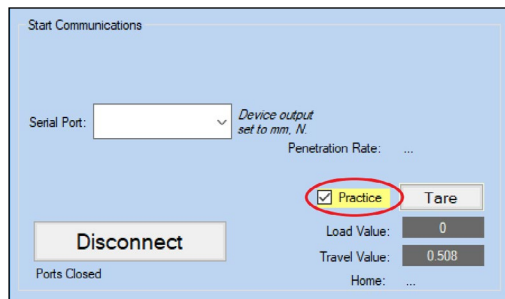

Figure 7: Practice Mode
3. Complete the fields in the **Sample Tests** tile (Figure 7). The yellow fields indicate required entries for starting the test. If nothing is entered in the recording frequency box, then displacement and load data will be collected at a frequency of 1 reading per second. You can also choose when the program stops recording data by entering a load value in the field labeled **Stop when load drops below peak**. The program automatically stops the test when the measured load drops below peak load by the amount specified.